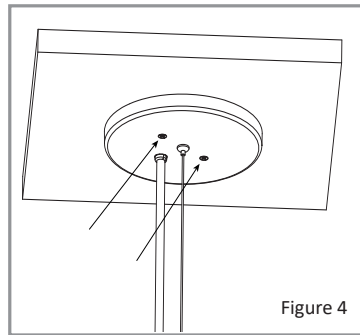

Figure 4
- Fasten provided M4 flat-head screws (x2) through canopy into canopy bracket that was just attached to the j-box. This completes assembly at ceiling level. (Figure 4)